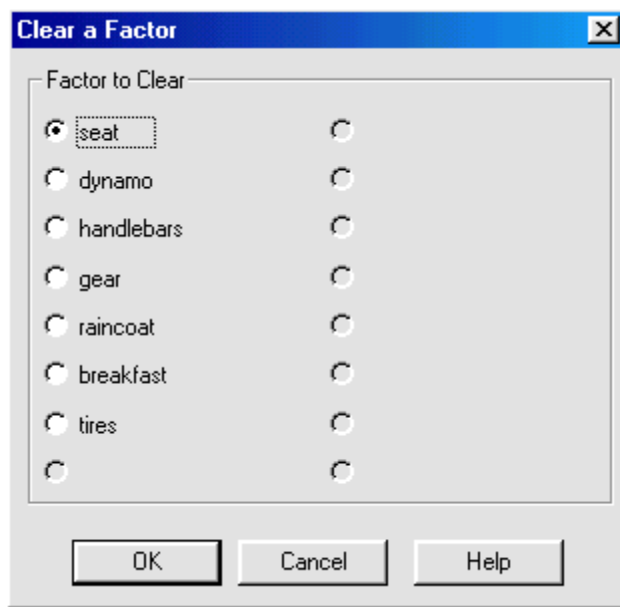

Figure 12-4. Clear a Factor Dialog Box
2. Choose the Clear a Factor option, then click OK to display the dialog box shown in Figure 12-4.